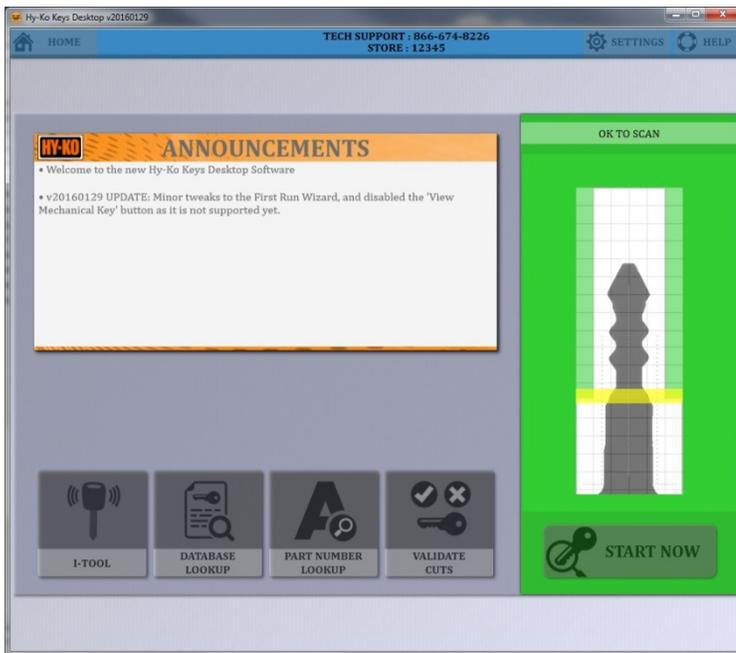

fig. 55
- Click **'START NOW'**. The Vision Box will begin the scanning process of the key (see fig. 55). Do not touch the key at this time.